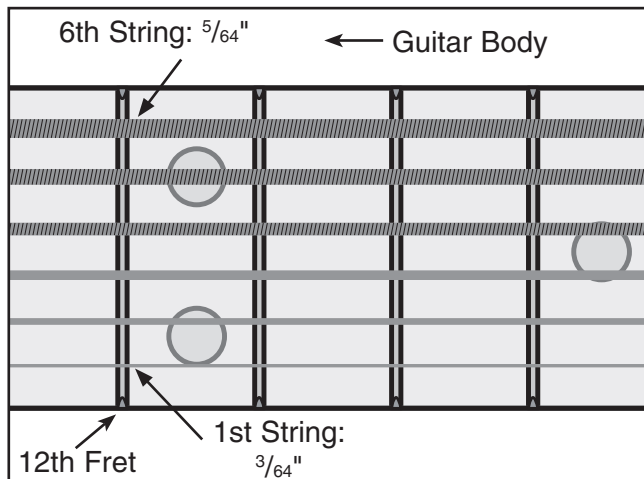

Figure 35. Correct 12th fret string heights.
2. Measure the string height at the twelfth fret as shown in **Figure 35**.